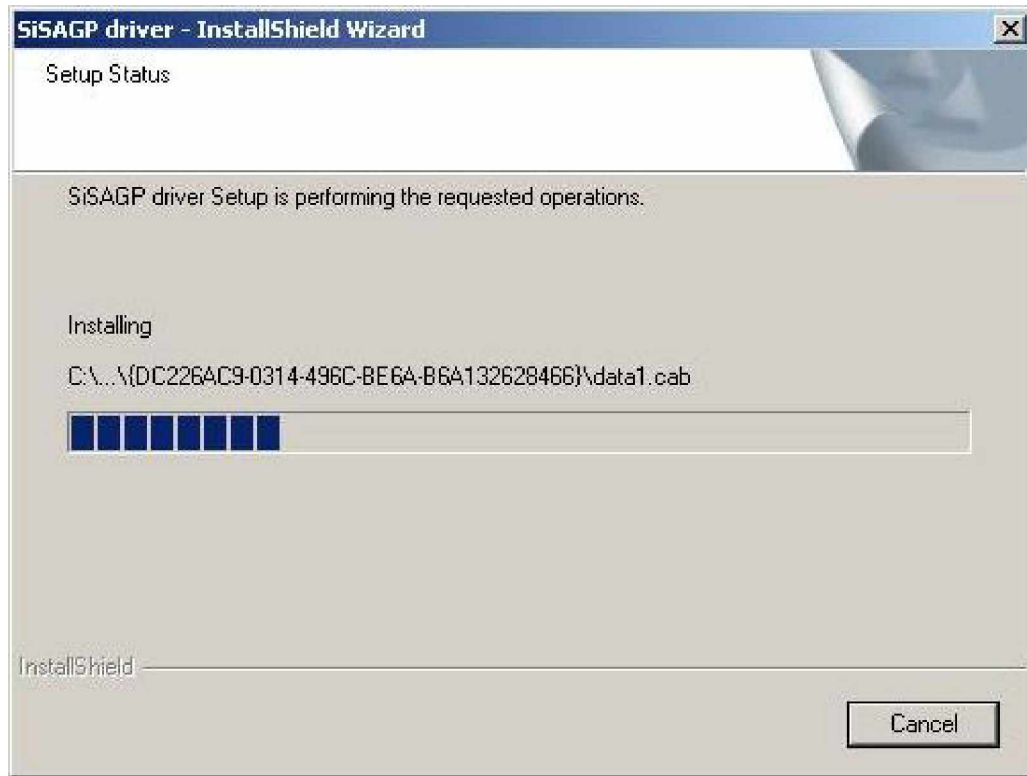

Figure 6-4: Installing Screen
Step 5: The installation shield starts to extract and install files as shown in **Figure 6-4**.